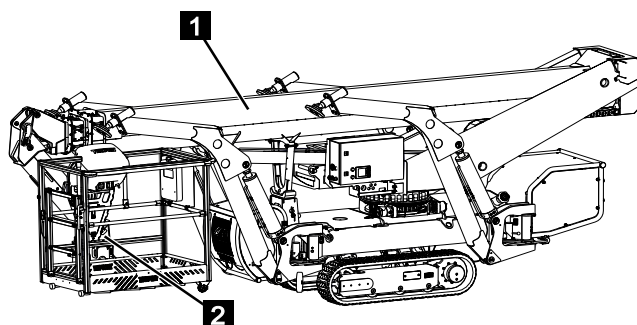

Fig. 142
- The telescopic boom (Fig.142/1) is on the transport support.
- The working basket (Fig.142/2) is in transport position.